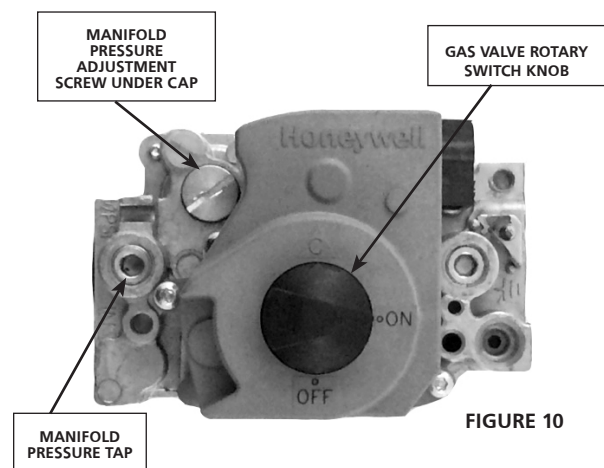

FIGURE 10
- There is a black rotary switch knob that can be moved between the on and off position. Rotate the switch knob to the off position. (See Figure 10)
2. After line pressure has been checked and adjusted, check manifold pressure. Correct manifold pressure is shown on the unit rating plate. See **figure 10** for gas pressure adjustment screw location. A natural gas to LP/propane gas changeover kit is required to convert unit. Refer to installation instructions provided with changeover kit for conversion procedure.